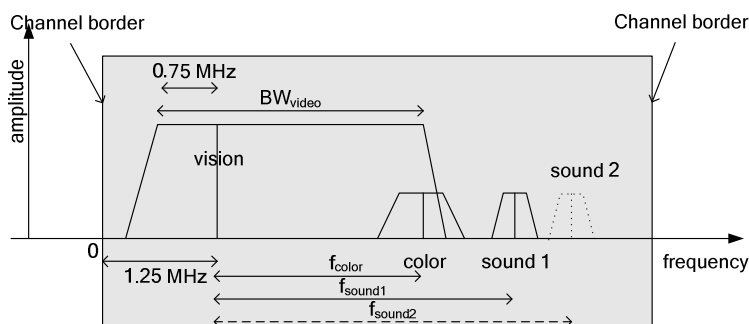

Fig. 2-32 Analog modulated signals in the RF range
For analog modulated TV signals based on PAL, SECAM, and NTSC, Fig. 2-32 shows the situation in principle: the components of the signal, and both frequency and level at the output of a TV transmitter (RF range).
- The vision carrier, indicated in Fig. 2-32 with "vision", is located 1.25 MHz above the channel start. The vision carrier has the highest level and mainly assesses the total power of the channel. It transmits the luminance information and is amplitude modulated. The amplitude modulation is mostly negative (the smaller the luminance signal the larger the vision carrier level), apart from SECAM/L (large vision carrier level combined with a large luminance signal). Only a part (around 0.75 MHz) of the lower sidebands of the vision carrier is transmitted. Therefore it is called "residual sideband modulation". The video bandwidth BW_{video} amounts to, depending on the standard, approx. 5 MHz (e.g. PAL B/G) or approx. 4 MHz (e.g. M/NTSC).
- The color carrier, indicated in Fig. 2-32 with "color", is shifted by f_{color} to a higher frequency value in respect to the vision carrier. The magnitude of f_{color} depends on the standard. The level of the color carrier is by far smaller than that of the vision carrier. Depending on the standard, the signal is analog quadrature amplitude modulated (e.g. PAL B/G) or frequency modulated (SECAM).
- One or two sound carriers, indicated in Fig. 2-32 with "sound 1" and "sound 2", are shifted by f_{sound1} or f_{sound2} to a higher frequency value in respect to the vision carrier. The magnitude of f_{sound1} or f_{sound2} depends on the standard. The level of the sound carriers is by far smaller than that of the vision carrier. Depending on the standard, the sound carriers are frequency, amplitude, or NICAM (digitally) modulated. The sound carriers do not need to possess the same modulation. For example, a combination of a frequency modulated carrier with a NICAM modulated carrier is possible.